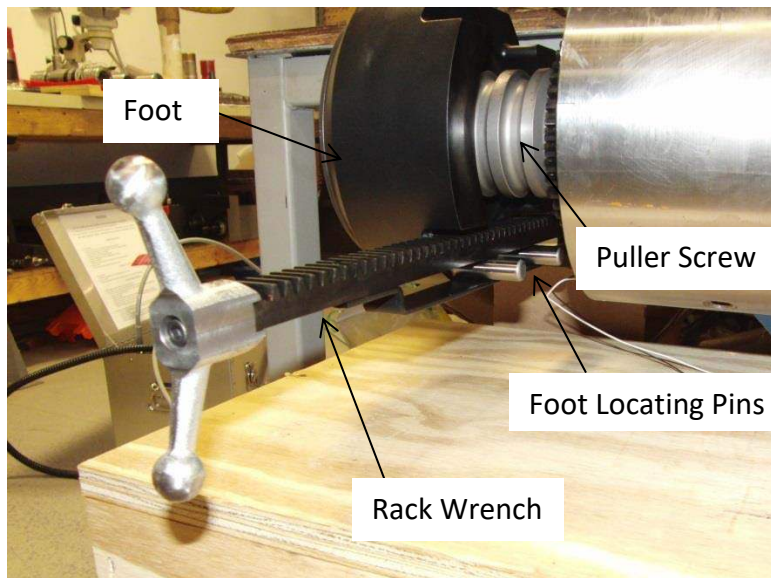

Figure 8C – 6 O'clock Position Rack Wrench on Foot for Tensioner HT-5425, HT-7979, and HT-8133
6. For turbine end 6 o’clock position, slide rack wrench over locating pins of the foot and orientate rack wrench as needed for rotation of the spur gear spanner. (Figure 8C)